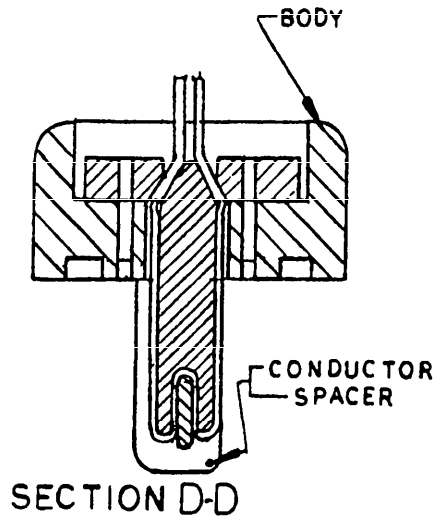

FIGURE 5. Body installation.
- E. Insert conductor spacer through body. See Figure 5 (Body Installation).